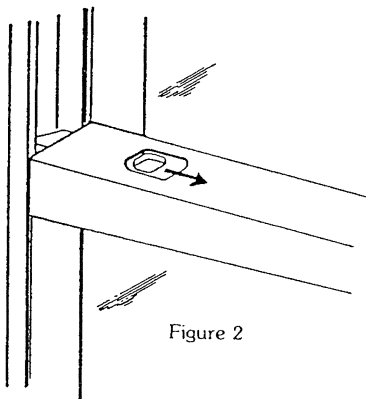

Figure 2
3. Disengage left and right tilt latches by pulling with fore fingers toward center of sash. (Figure 2)
Be sure to first disengage the left and right tilt latches by pulling with fore fingers toward the center of sash. (Figure 2)